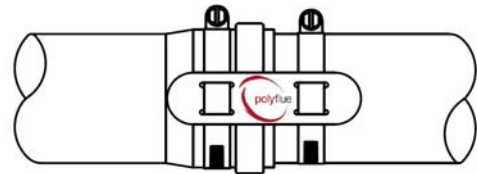

Figure 2
3. Slide Locking Band over the female end of the connection and tighten up both hose clamps (Fig 2).